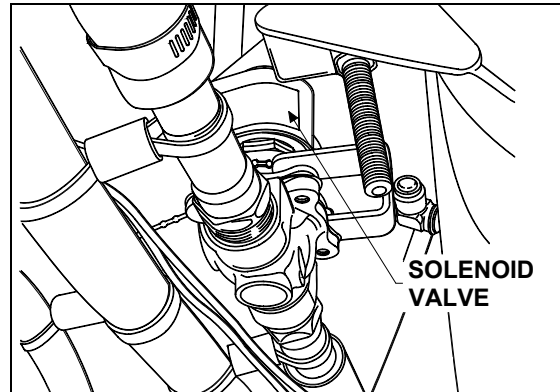

FIGURE 36: CEILING OF SPARE WHEEL COMPART. 22127
2. Locate the normally open water solenoid valve on the ceiling of the spare wheel compartment (Fig. 36), disconnect its wiring connector, then connect a 24-volt external power source, using jumper cables, to close valve.
A two-way normally open, internal pilot-operated solenoid valve designed for smooth closing is used to control the coolant flow through the driver's heating unit. It is mounted on the coolant inlet line of the driver's heating unit, and is accessible through the spare wheel compartment (see fig. 36). The valve cannot be manually bypassed.